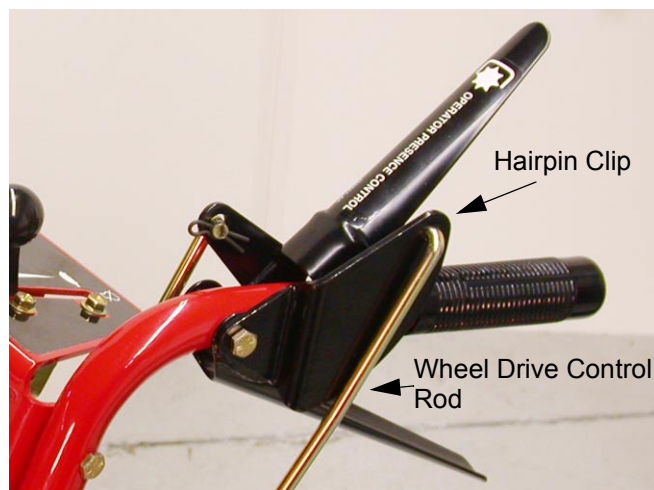

Figure 27
- 8.1. Remove the hair pin clip from the upper end of the wheel drive control rod. Slide the rod out of the lever assembly. See Figure 27.